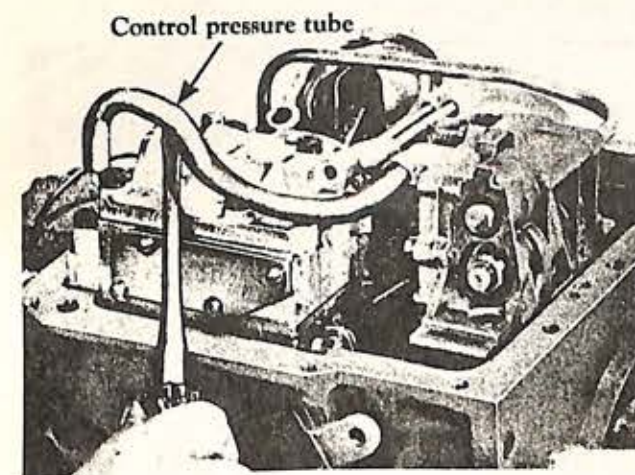

Fig. 26
5. Remove the large control pressure tube (Fig. 26) from the pressure regulator and the control valve body.